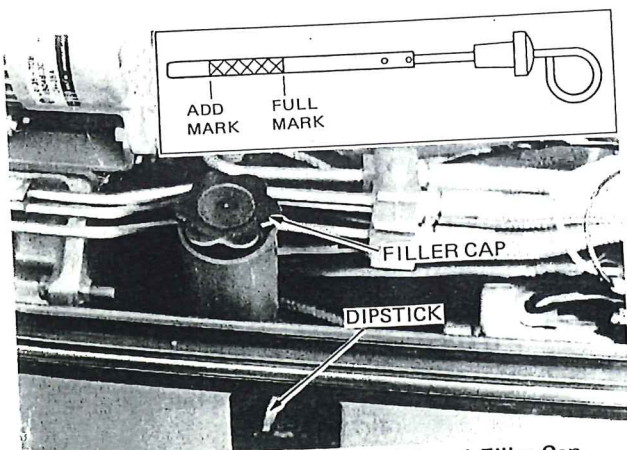

Figure 37 — Engine Oil Level Dipstick and Filler Cap
1. With the tractor standing level, and after the engine has been stopped for a period of time, check the oil level with the dipstick, Figure 37.